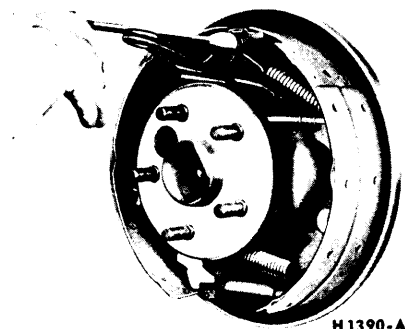

FIG. 16—Retracting Spring Removal
5. Remove the primary shoe to anchor spring with the tool shown in Fig. 16. With the same tool, remove the secondary shoe to anchor spring and unhook the cable eye from the anchor pin.